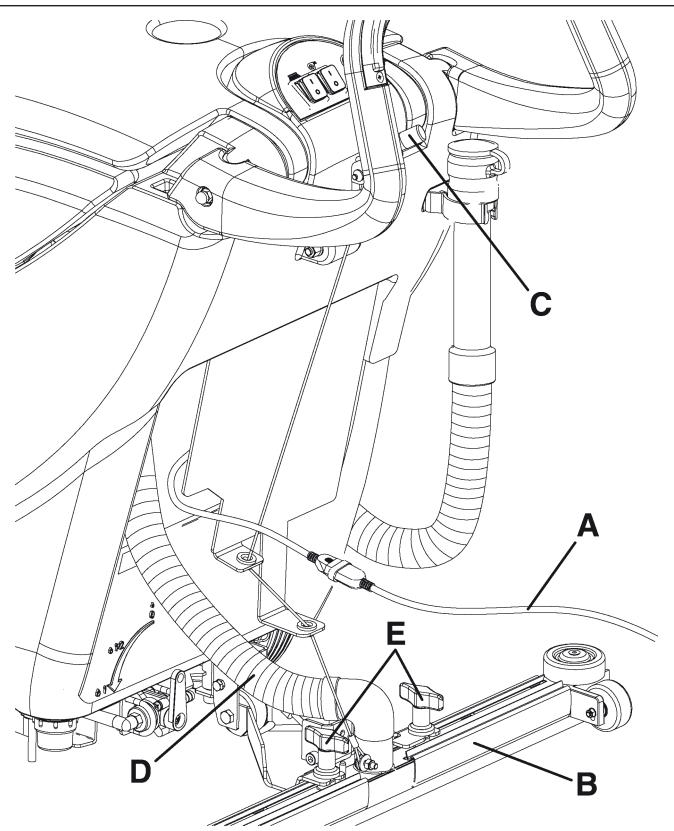

Figure 16
1. Make sure that the power supply cable (A, Fig. 16) is disconnected from the electrical mains.
2. Lower the squeegee (B, Fig. 16) by means of the lever (C).
3. Disconnect the vacuum hose (D, Fig. 16) from the squeegee.
4. Loosen the squeegee knobs (F, Fig. 16) and remove the squeegee (D).
5. Reinstall the squeegee (B, Fig. 16) and screw down the squeegee knobs (E).
6. Connect the vacuum hose (D, Fig. 16) to the squeegee (B).